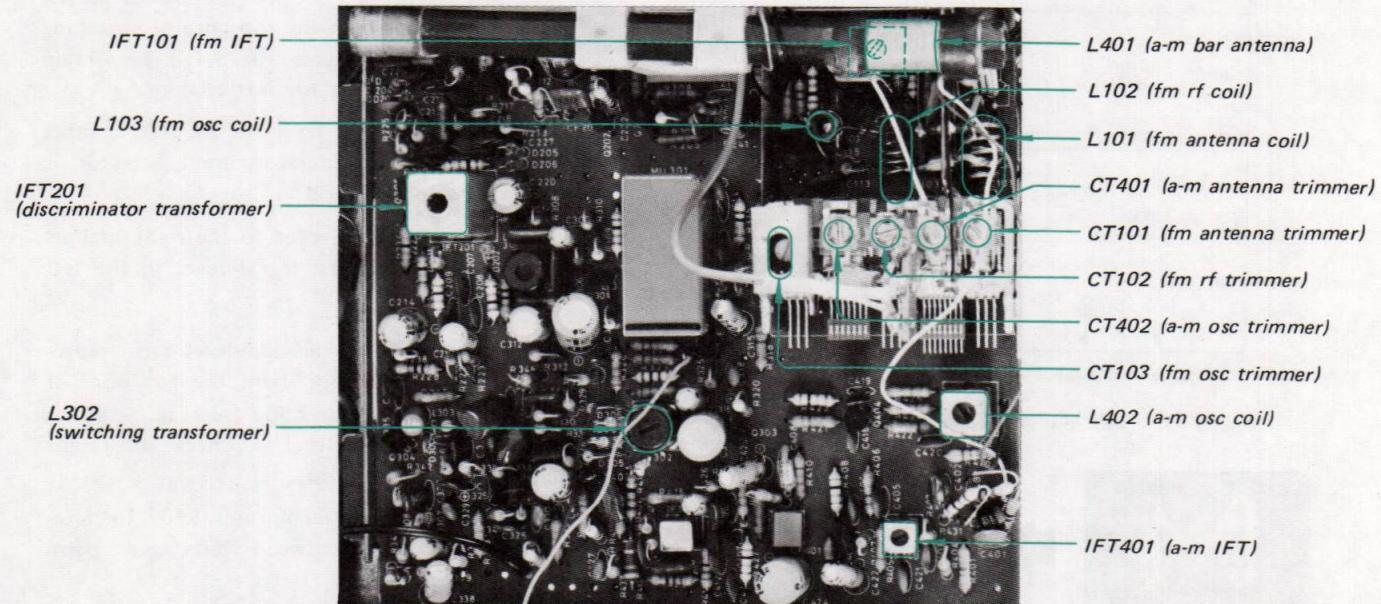
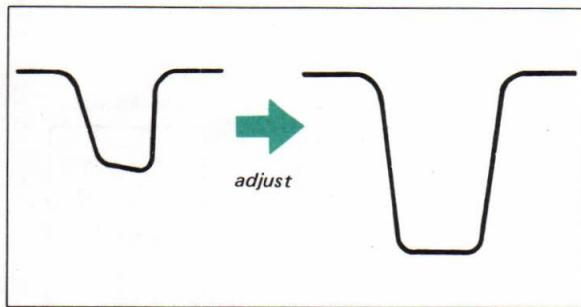
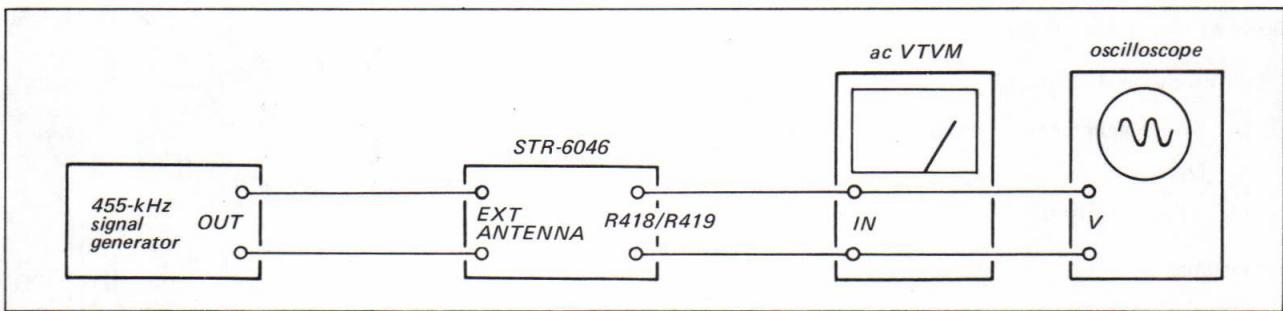

Fig. 3-10. Adjusting parts location
Fig. 3-16. A-m i-f response
Fig. 3-17. Test setup for a-m i-f alignment by rf signal generator
- Turn the top core (secondary side) of discriminator transformer IFT201 (see Fig. 3-10) with an alignment tool to obtain the "S" curve response, and equalize the positive and negative peaks of the "S" curve response, as shown in Fig. 3-6.
- Adjust i-f transformer IFT101 (see Fig. 3-10) and primary side of discriminator transformer (IFT201 bottom core) to obtain a maximum-amplitude "S" curve response.
4. If the discriminator transformer IFT201 (see Fig. 3-10) is not aligned correctly, 400-Hz ripple will be observed as shown in Fig. 3-8.
7. Turn the core of fm IFT101 (see Fig. 3-10), and the primary side of discriminator transformer IFT201 to obtain the maximum output.
2. Precisely tune the set to the SSG's carrier frequency then turn the top core of switching transformer L302 (see Fig. 3-10) to obtain maximum output at the left channel.
5. The output-level to residual-level ratio represents the separation. Turn the top core of switching transformer L302 (see Fig. 3-10) for minimum residual level. Check the right channel for separation.
5. Turn the top core of a-m IFT401 (see Fig. 3-10) to obtain a maximum and symmetrical response as shown in Fig. 3-16.
3. With the equipment connected as shown in Fig. 3-17, turn the top core of a-m IFT401 (see Fig. 3-10) to obtain the maximum output.